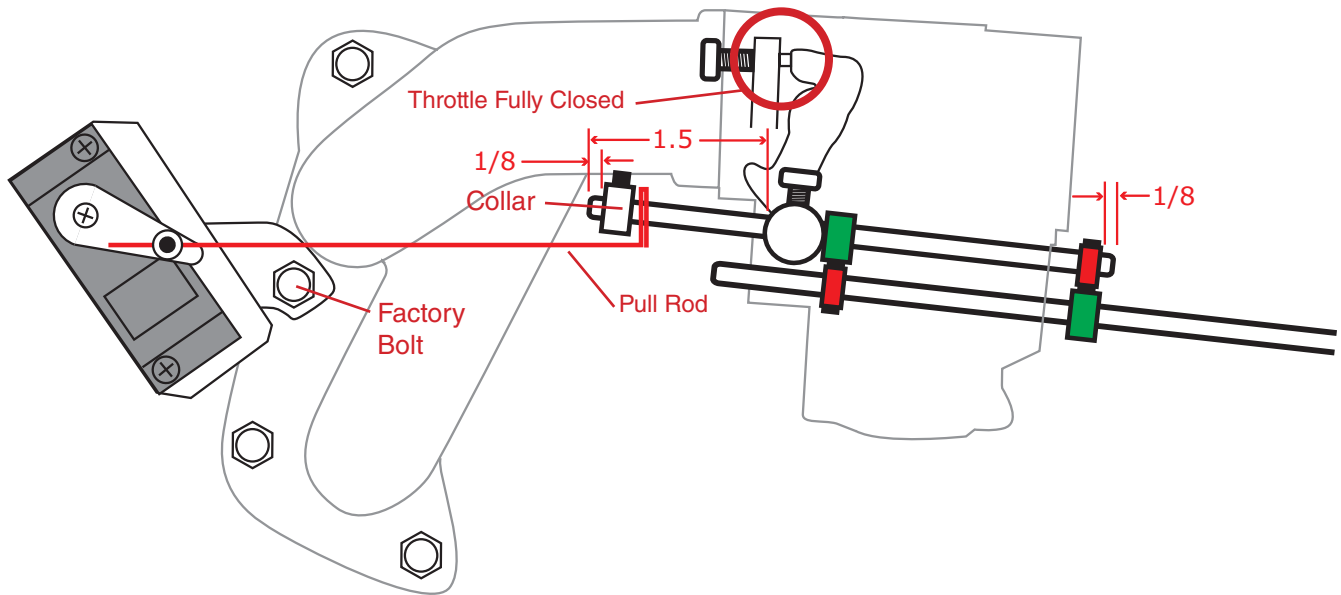

Figure 4
Step 5: See Fig. 4
NOTE: Fig. 4 shows servo with arm attached.
- Install servo arm as shown in Fig. 4. Install set screw at center of servo arm.
- Slide loop end of pullrod over iTroll's stainless throttle rod (see Fig. 4).
- Install collar on left end of iTroll throttle rod. Leave 1/8 inch of rod protruding from end. Tighten set screw with 1/16 allen wrench. See Fig. 4
- HOLD the pinch, make sure that the carb is fully closed (see Fig. 4) and tighten pullrod in servo arm fitting with supplied .050 Allen wrench.